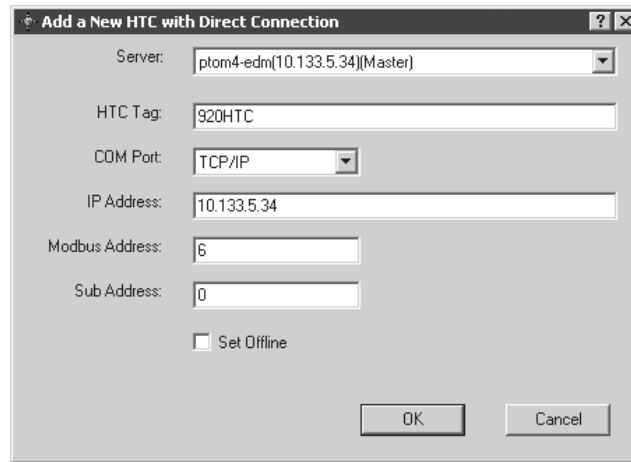

Figure 1-5 Add a new HTC
2. Fill in the HTC Tag, COM Port, IP Address, and Modbus Address field. In the Modbus Address field, you must enter an address of 6. This address is fixed in the Simulator as the identifier for a 920 HTC direct-connected controller (see Figure 1-5). Remember to use the IP Address obtained from the Simulator main screen as the IP Address (see Section 1.3 above).